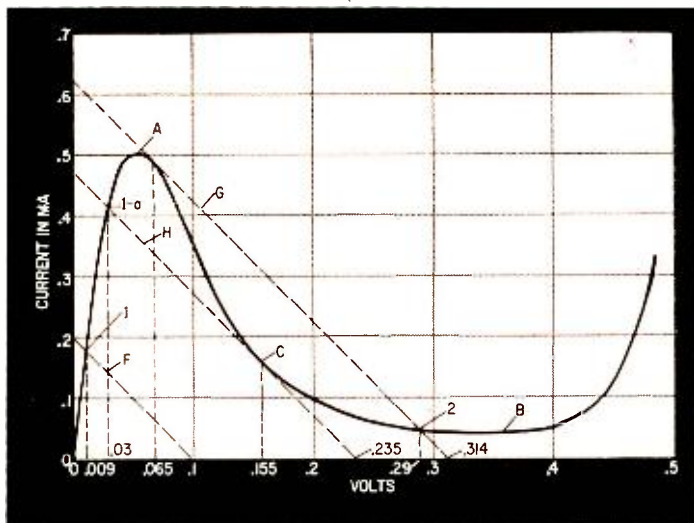
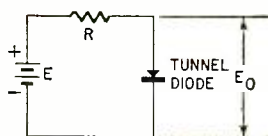
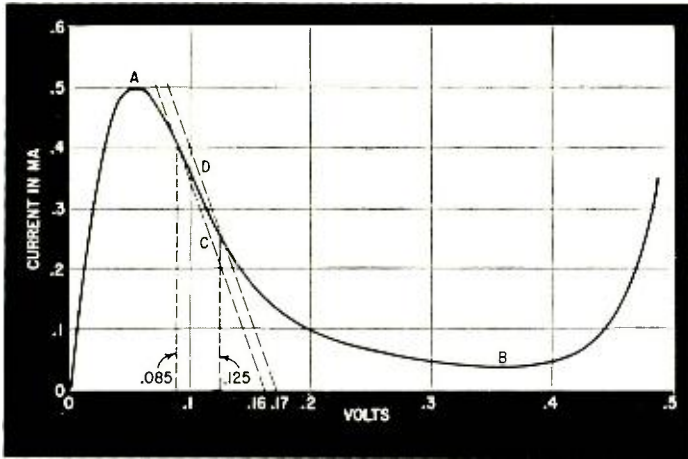

Fig. 2—Tunnel-diode characteristic with load lines for 500-ohm resistor in circuit of Fig. 3.
Fig. 3—Basic tunnel-diode circuit.
Fig. 5—Characteristic and load lines illustrating amplifying property.
it will be useful to first explore some of its electrical properties. It will be convenient, therefore, to refer to the simple series circuit arrangement of Fig. 3. Then, in conjunction with Fig. 2, we will analyze the operation of the tunnel diode.
A current-voltage characteristic of a typical tunnel diode is shown in Fig. 2. The current through it is shown with respect to the voltage E_0 across its terminals. Since the circuit of Fig. 3 is a simple series arrangement, the voltage E_0 at any time is equal to the battery voltage E minus the voltage drop in the resistance R . It would be very useful, therefore, also to know the current flowing in resistance R with respect to the voltage drop in it. Load line F in Fig. 2 shows just this relation and a very useful tool is available from it. The intersection of line F with the voltage axis shows the battery supply voltage E while its intersection with the diode characteristic curve shows the voltage E_0 .
Load line F may be used to represent the resistance R in the circuit of Fig. 3. While the slope of this line is negative and it appears at first that there is a decrease in current with increase in voltage, it must be remembered that the load line F does not show the current flowing in the resistance with respect to the voltage supplied, as is the case for the diode characteristic. Rather, it shows the current flowing with respect to the voltage drop in the resistance. For this reason, this negative slope is not to be confused with the negative-resistance region (A-B) of the diode characteristic.
For the condition shown, $E = 0.1$ volt, $E_0 = .009$ volt and the current is 0.18 ma. Therefore, with the above values, the point of operation of the diode (for the circuit of Fig. 3), will be as shown at 1 in Fig. 2. Although the slope of this load line is fixed by the resistance R in the circuit of Fig. 3, a change in the battery supply voltage will change its location with respect to the current-voltage characteristic.
Load line J in Fig. 4 (using the circuit of Fig. 3) represents a value of resistance much higher than the negative resistance of the diode. Notice that this load line intersects the characteristic in both positive resistance regions. Thus there are two stable operating points for a single battery voltage E. The voltage across the diode can be either that corresponding to point 1 or that corresponding to point 2.
Such a load line is shown as C in Fig. 5. It always has only one intersection with the diode characteristic, making it possible to have an average bias in the negative-resistance region. The slope of region A-B for a typical germanium tunnel diode having a peak current at point A of about 1 ma is about -100. Hence its negative resistance will be 100 ohms.
Now how can the tunnel diode amplify? Refer to Fig. 3 again and assume that the diode is biased somewhere between the points A and B and has a load line such as shown at C on the characteristic of Fig. 5 so that it looks like a negative resistance. This negative resistance is indicated as (-R_o). Then:
From equation (1) we see that the gain is 1 when R = 0 and increases to a very large value as R approaches (-R_o). This is shown graphically in Fig. 5. Lines C and D correspond to a resistance R of 150 ohms and battery voltages of 0.16 and 0.17 volts, or a change of .01 volt. At the same time we see that the voltage across the tunnel diode is .085 and 0.125 volt, respectively, or a change of .04 volt.